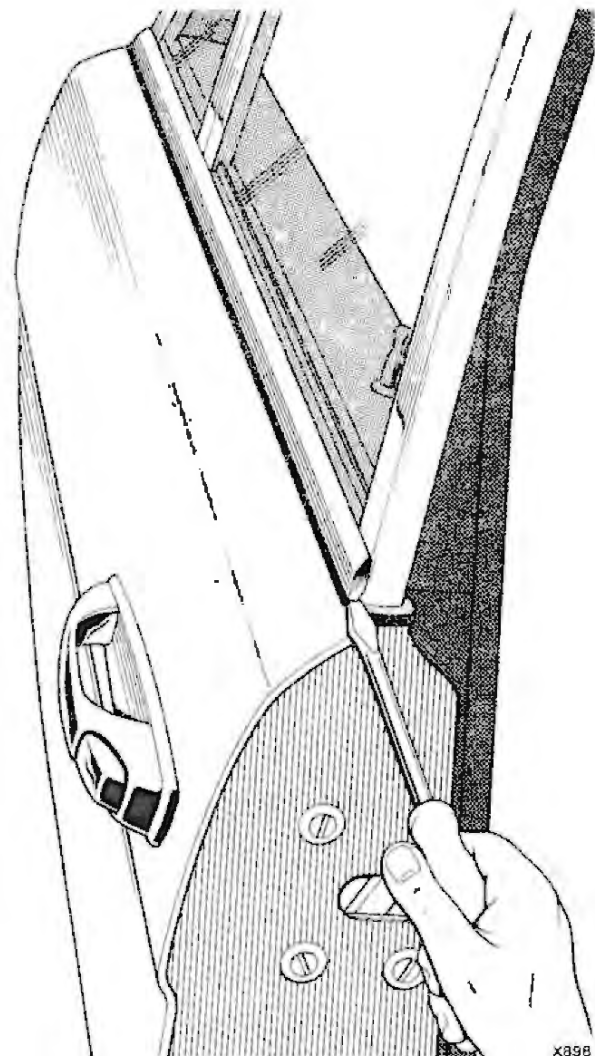

Fig. 2
1. To raise the fence moulding, carefully insert a small sharp screwdriver between each end of the fence moulding and door (see fig. 2), and raise the fence moulding until it is clear of the body. DO NOT LEVER ON THE PAINTWORK.